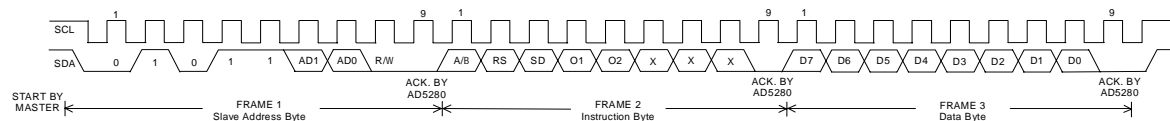
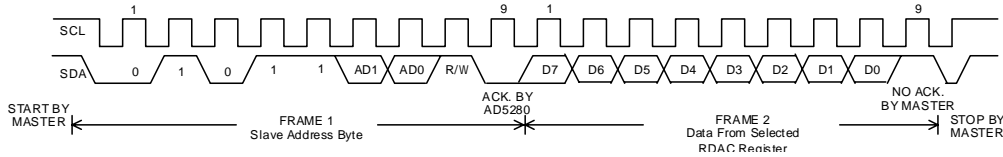

Figure 2. Writing to the RDAC Register
Figure 3. Reading Data from a Previously Selected RDAC Register
Referring from Figures 2 and 3, the first byte of AD5280/AD5282 is a Slave Address Byte. It has a 7-bit slave address and a  $R/\bar{W}$  bit. The 5 MSBs are 01011 and the following
1. The master initiates data transfer by establishing a START condition, which is when a high-to-low transition on the SDA line occurs while SCL is high, Figure 2. The following byte is the Slave Address Byte which consists of the 7-bit slave address followed by an  $R/\bar{W}$  bit (this bit determines whether data will be read from or written to the slave device).
2. A Write operation contains an extra Instruction Byte more than the Read operation. Such Instruction Byte in Write mode follows the Slave Address Byte. The MSB of the Instruction Byte labeled A/B is the RDAC sub-address select. A “low” select RDAC1 and a “high” selects RDAC2 for dual channel AD5282. The 2nd MSB RS is the Mid-scale reset. A logic high of this bit moves the wiper of a selected RDAC to the center tap where  $R_{WA}=R_{WB}$ . The 3rd MSB SD is a shutdown bit. A logic high causes the RDAC open circuit at terminal A while shorting wiper to terminal B. This operation yields almost a zero Ohm in rheostat mode or zero volt in potentiometer mode. This SD bit serves the same function as the  $\overline{SHDN}$  pin except it reacts in active low. The following two bits are O2 and O1. They are extra programmable logic output that users can make use of them by driving other digital loads, logic gates, LED drivers, and analog switches, etc. The 3 LSBs are DON’T CARE. See Figure 2.
condition, Figure 2. In Read mode, the master will issue a No Acknowledge for the 9th clock pulse (i.e., the SDA line remains high). The master will then bring the SDA line low before the 10th clock pulse which goes high to establish a STOP condition, Figure 3.